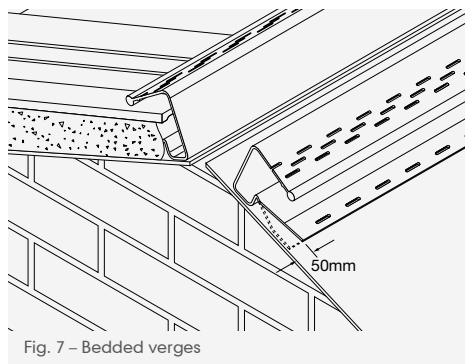
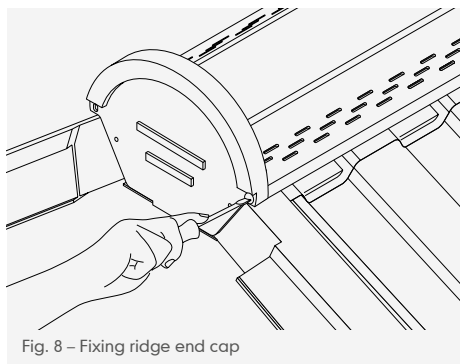

Fig. 7 – Bedded verges
Fig. 8 – Fixing ridge end cap
Lay undercloak under flange and bed tiles in normal manner (Fig. 7). Where a PVC end cap is used (see Fig. 8).
- 15 Screw Ridge end cap to end of Marley dry ridge batten, locating stainless steel screws (supplied in fixing kit) in end of circular beads on upper flange (Fig. 8).